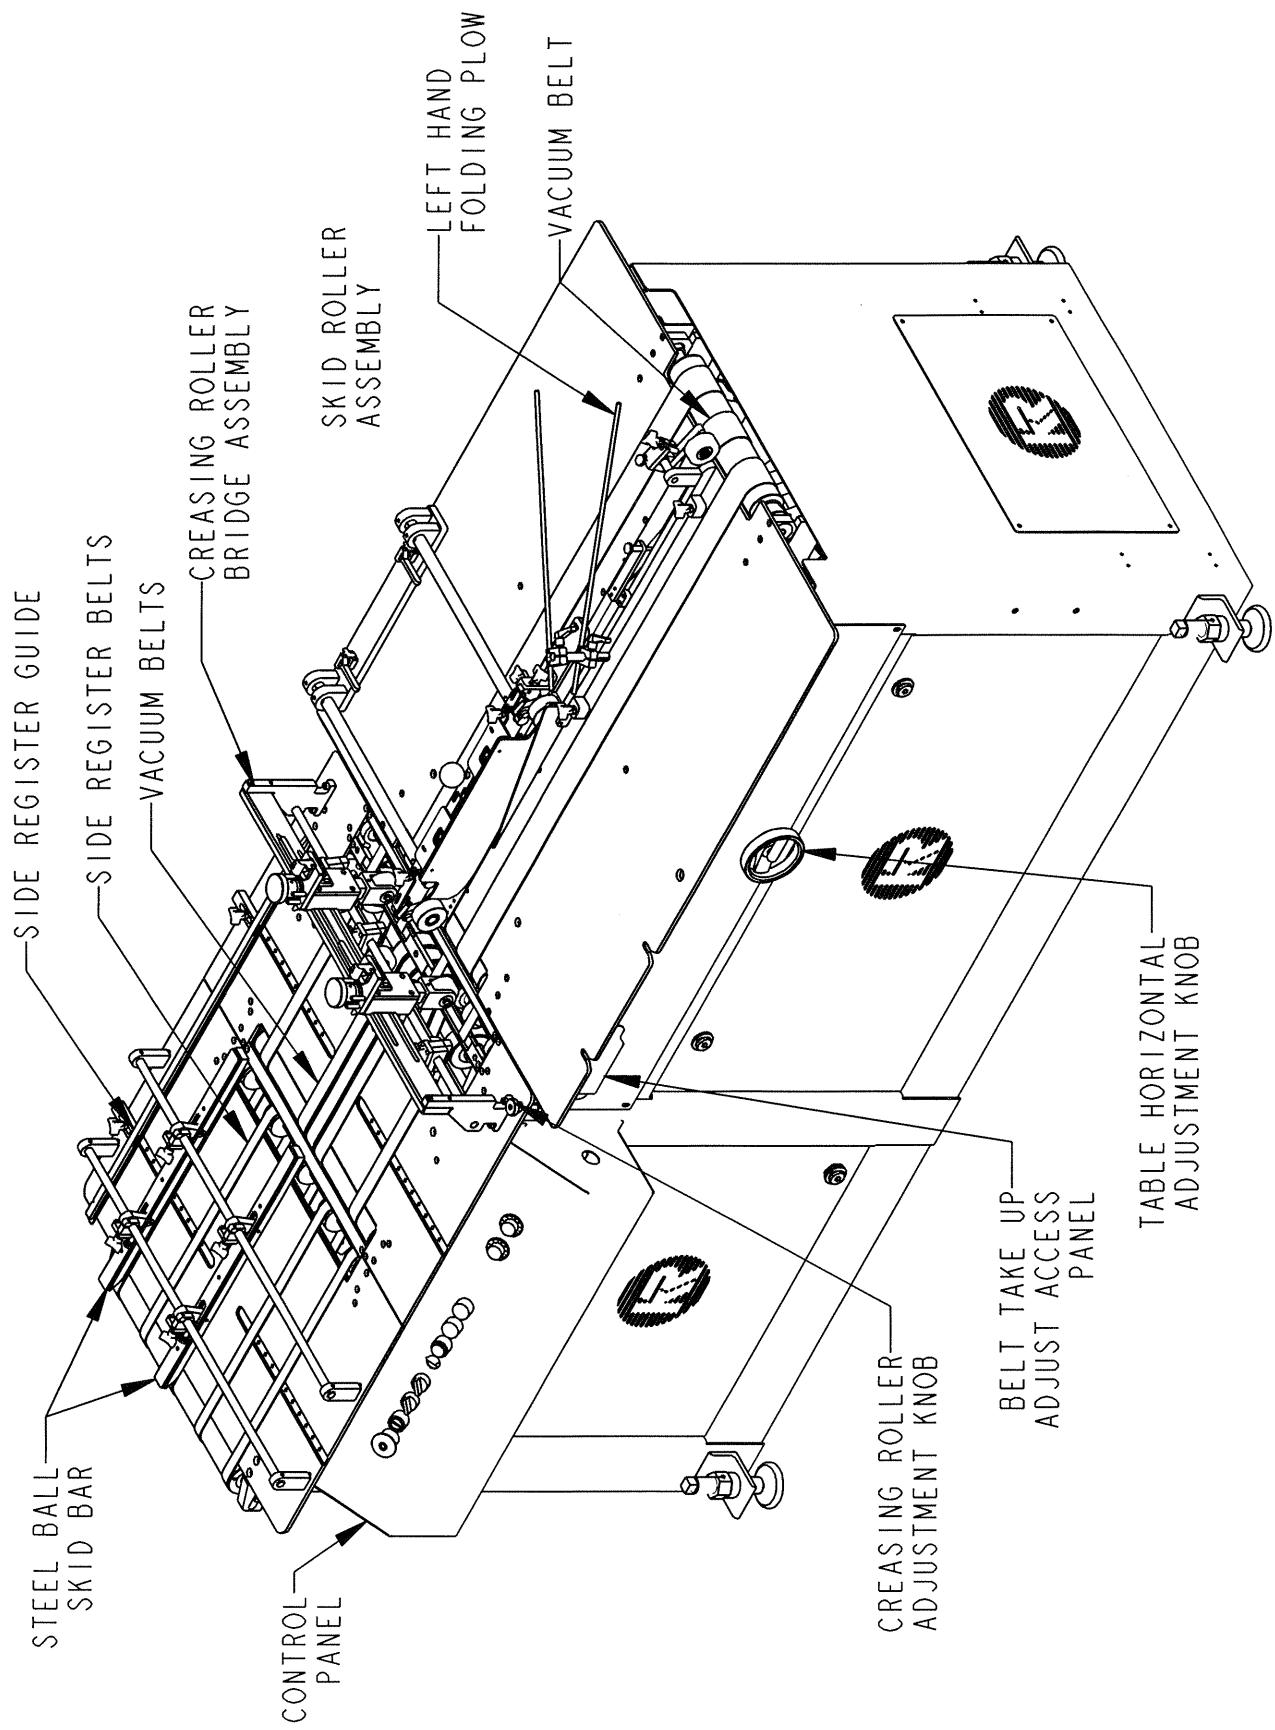

FIGURE 6.0
5.2 Base Component Descriptions (See Figure 6.0)
5.3 Creasing Roller Bridge Component Descriptions (See Figures 6.0 and 7.0)
6.2 Product Side Register Setup (Reference Set Up Sequence 2,3 and **Figure 6.0**)
1. Adjust the plow fold table horizontally by turning the table horizontal adjustment knob. Adjust the table so the center vacuum belt edge that lines up with the plow is in line with the first fold creasing wheel. **See Figure 6.0**
This allows more vacuum to be used. If the tabletop belts slip first check the spring loaded take up arm tension and then the blower bleeder valves. If the belt tension is adequate then adjustment of the bleeder valves is necessary. The bleeder valves allows vacuum to escape reducing the amount of drag on the tabletop belts. See **Figure 6.0**